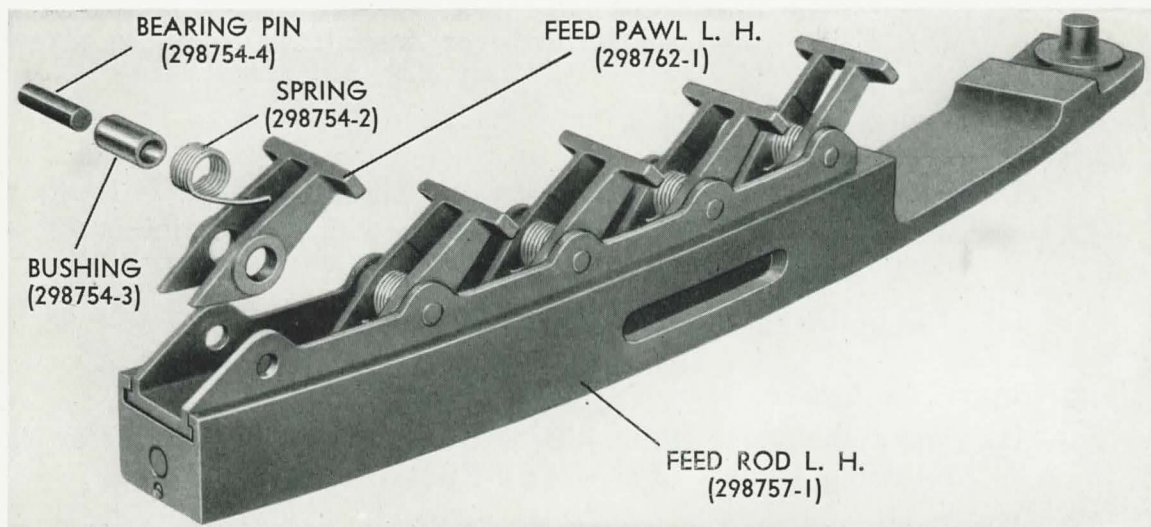

Figure 69
- (1) Install the pawls in the holder, **Figure 69**.
- (2) Install the feed pawl holder in the feed rod.